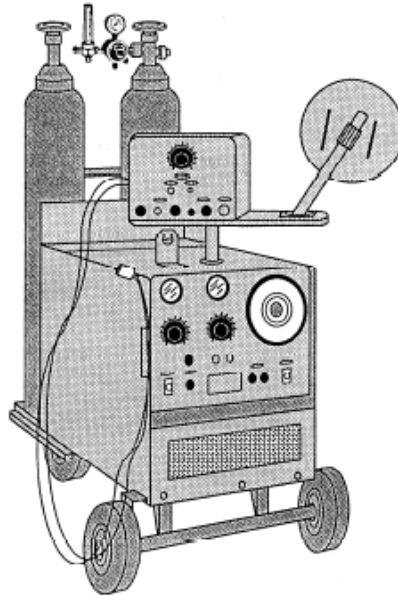

Figure 8-25.—Constant voltage (CV) power unit.
A constant voltage (CV) power source was developed to overcome the inconsistent voltage characteristics of a conventional welding machine, (See fig. 8-25). It can be either a dc rectifier or motor generator that supplies current with normal limits of 200 to 250 amperes.